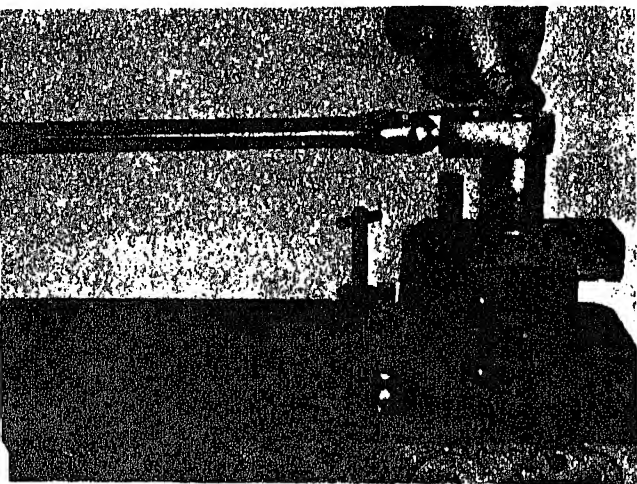

Fig. 2-1-14. Regroove cylinder head
If the cylinder head has been resurfaced or has not been grooved previously, it will be necessary to cut grooves in the cylinder head over each cylinder liner. These grooves will assure a better seal between the cylinder head gasket and block during engine operation. Fig. 2-1-14. Use ST-597 or ST-913 Cylinder Head Grooving Tool to perform this operation.
- g. Rotate grooving tool clockwise to cut groove. The tool bit is spring loaded in the tool holder and will ride over any "hard" spots on the head surface. It may take two or three revolutions to get a smooth even cut in the head. Fig. 2-1-14.